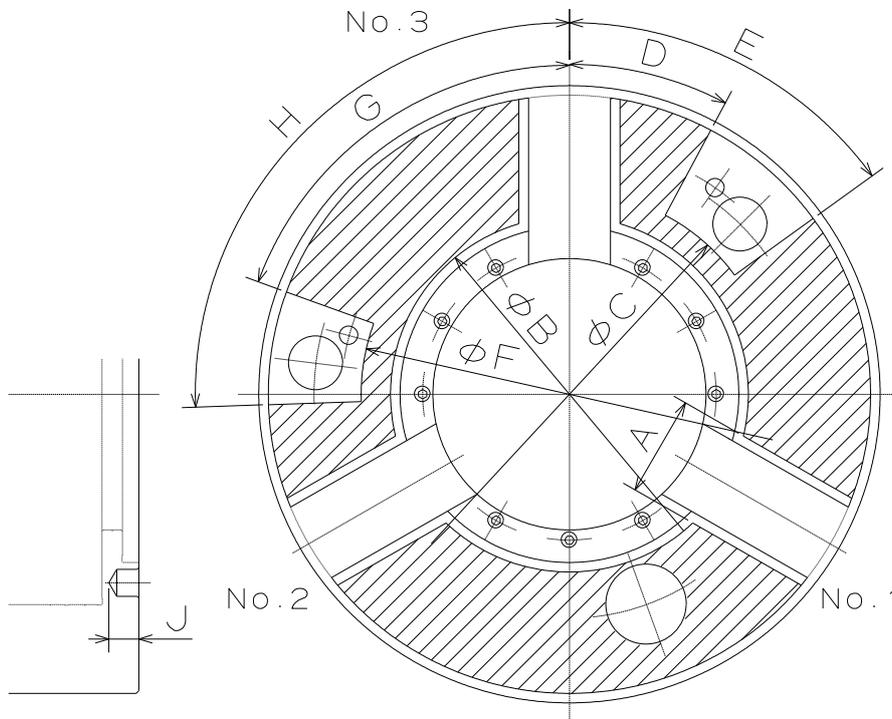

Fig.13
- In the case of attaching the locator and the jig on the chuck body surface, tap or drill a hole in the additional process range specified in Fig. 13.